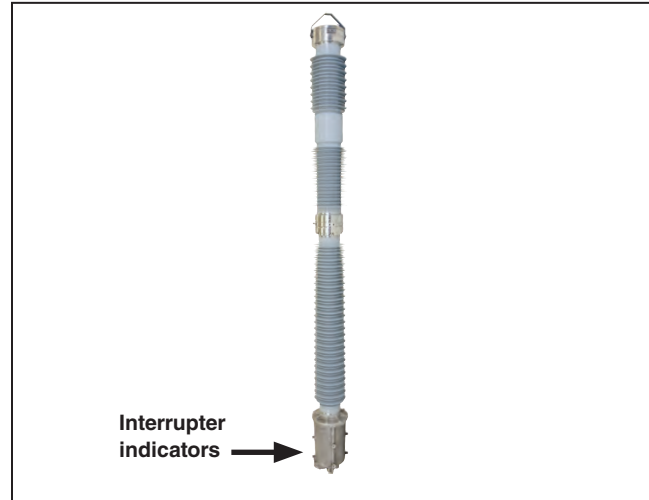
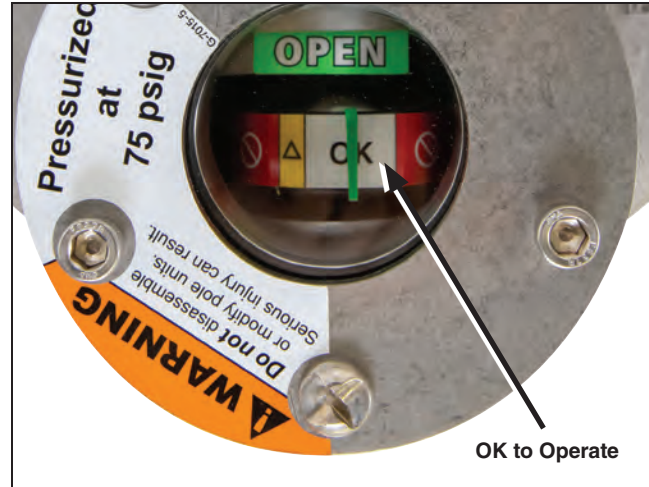

Figure 7. With the interrupter lifted off the ground, check the gas-pressure gauge on the underside of each interrupter.
Figure 8. Make sure the gas-pressure gauge on each interrupter is in the OK to Operate zone.
**STEP 2.** With the interrupter lifted off the ground, make sure the gas-pressure gauge on the underside of the interrupter is in the OK to Operate zone. See Figure 7 and Figure 8.